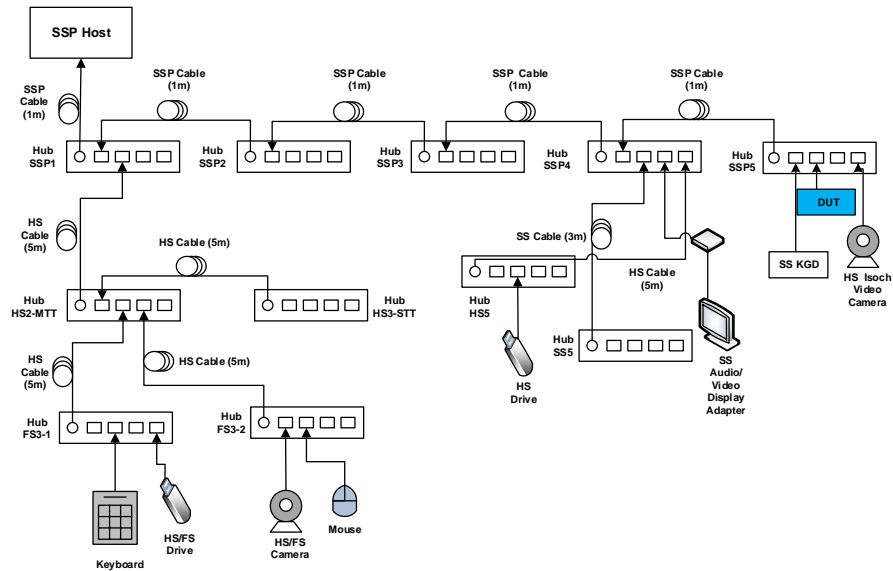

Figure 11-6: Modified Device SSP Interoperability Interim Tree (with SSP Hubs Interop Tree)
- Disconnect the SSP device from root port and connect it behind SSP5 (refer to Figure 11-6)
- Disconnect the SSP device from SSP5 and connect it behind SS5 (refer to Figure 11-6)
- Disconnect the SSP device from SS5 and connect it behind HS5 (refer to Figure 11-6)
- Disconnect the SSP device from HS5 and connect it behind FS3-1 (refer to Figure 11-6)